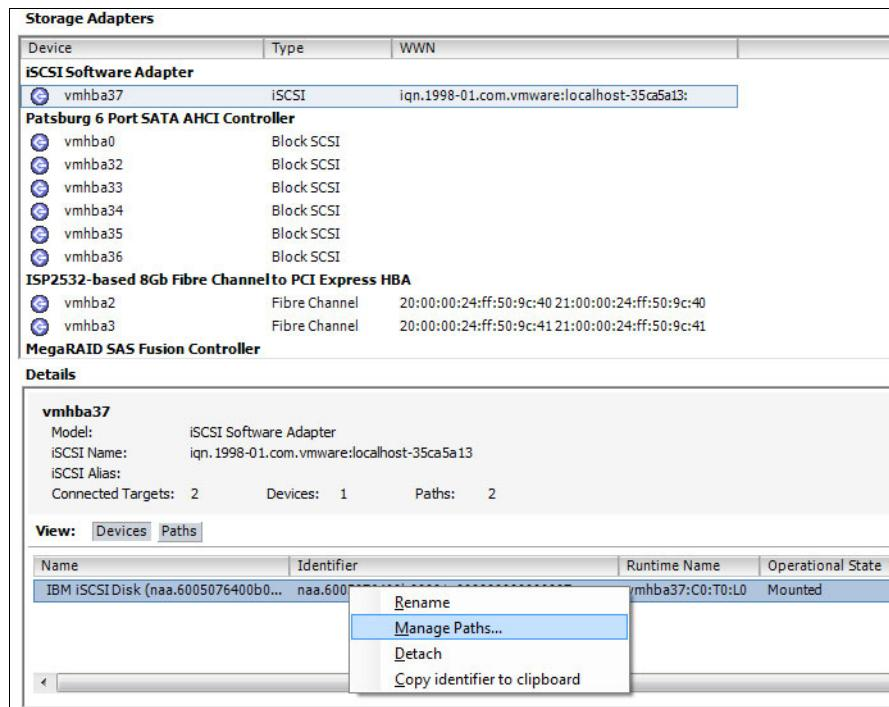

Figure 7-53 Manage Paths
- In the Storage Adapters section in the vSphere client, select the software adapter, right-click the device or LUN, and click **Manage Paths**, as shown in Figure 7-53.